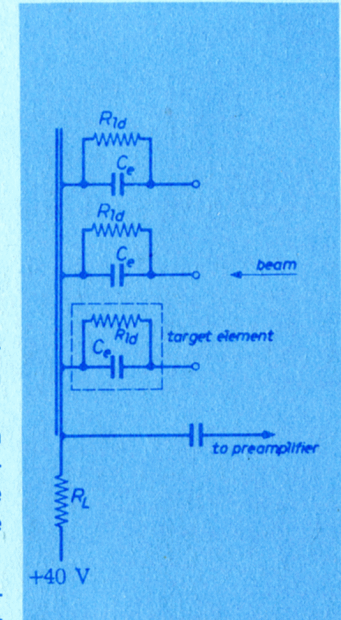

Figure 2.
**The target section.** The external signal-electrode ring is connected via a load resistor to a positive voltage in the order of 40 V (see Fig. 2).